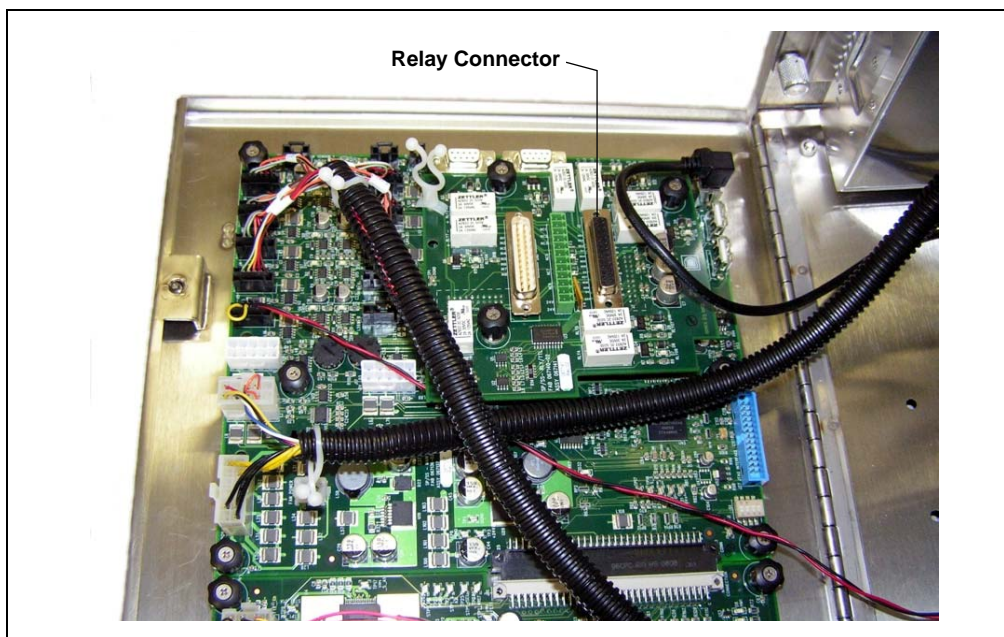

Figure C-21. TTL/Relay Controller Board on SP Service Door (Horizontal SP Enclosure Shown)
4. Plug the other end of the extension cable into the relay connector on the TTL/relay controller board on the SP service door (see Figure C-21).